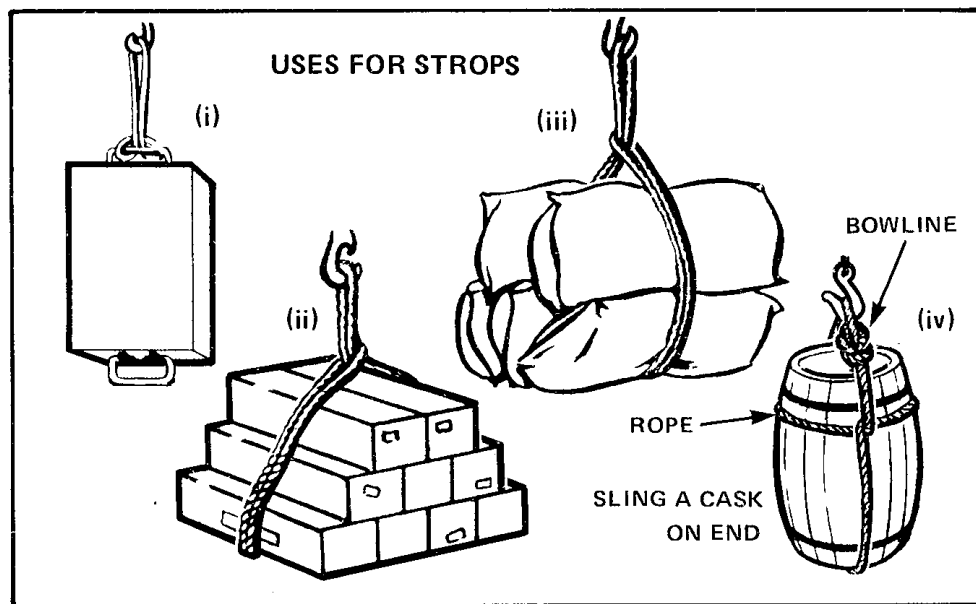

Figure 4-63 Uses for Strops
13. **Uses for a Strop** — The best uses for strops are on crates with handles, on a group of light cases (arranged as shown in Figure 4-63 (ii)), on a group of sacks (if they are sturdy ones), or on casks. If a group of heavy cases is lifted or if the cases are arranged differently from Figure 4-63 (ii), the strops will crush or damage the load.